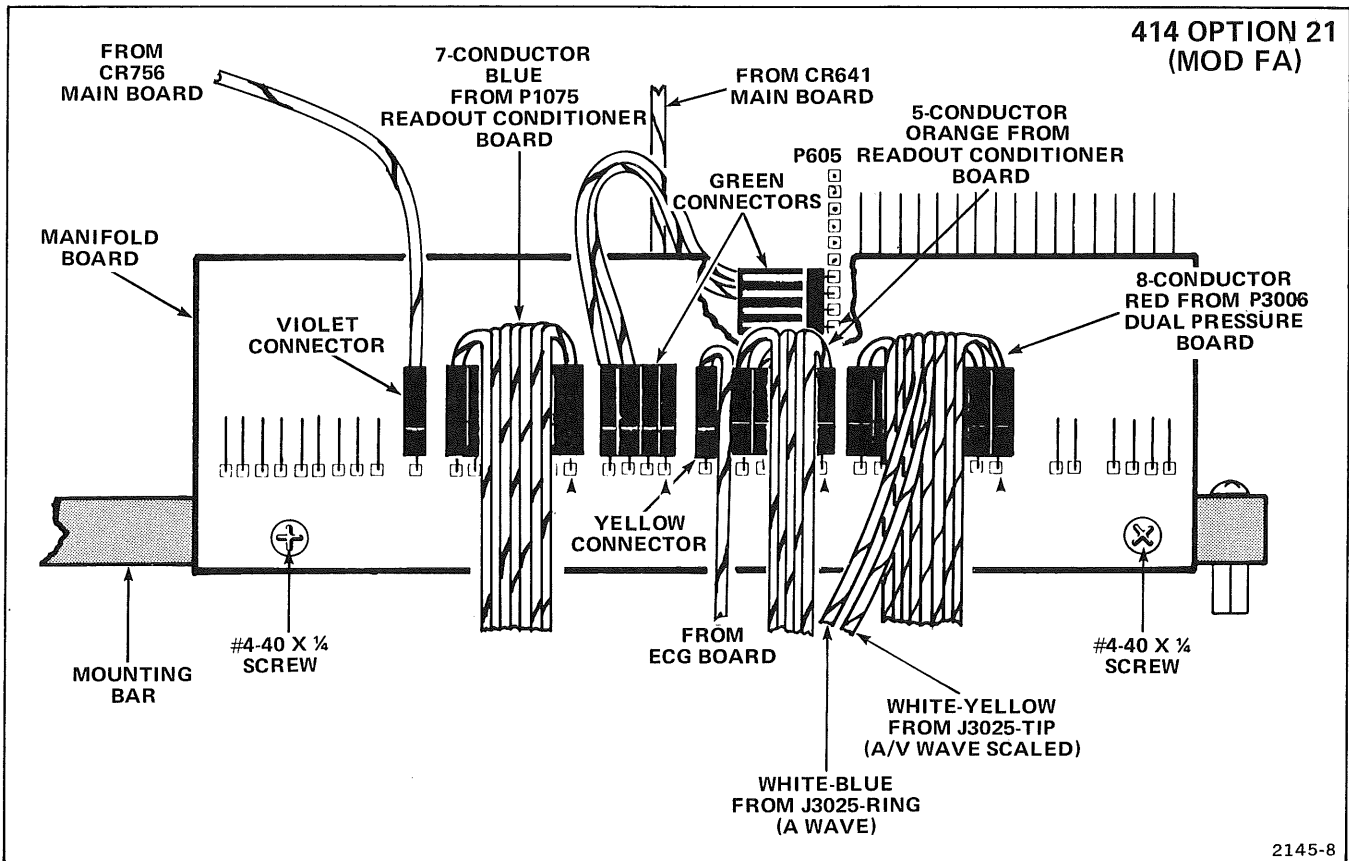

Figure 1-24. Installing Manifold Board and connecting cables in 414 Option 21 (MOD FA).
15. Connect two-wire cable with green connector to P605, install Manifold Board and connect remaining cables. See Figure 1-24.